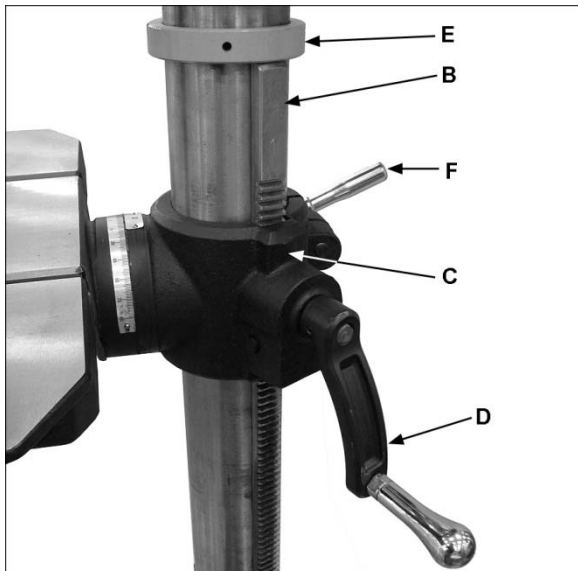

Figure 5
5. Position rack (B, Figure 5) into the slot in table bracket (C), meshing the rack teeth with the worm gear.
8. Slide table elevating handle (D, Figure 5) onto protruding shaft of worm, and tighten set screw in handle with a 3mm hex wrench. Crank the handle counterclockwise to lower table bracket down the column.
9. Place ring (E, Figure 5) onto column and slide it down over top edge of rack. Tighten set screw on ring.
10. Screw locking handle (F, Figure 5) into table bracket. Tighten locking handle to secure table bracket's position on column.